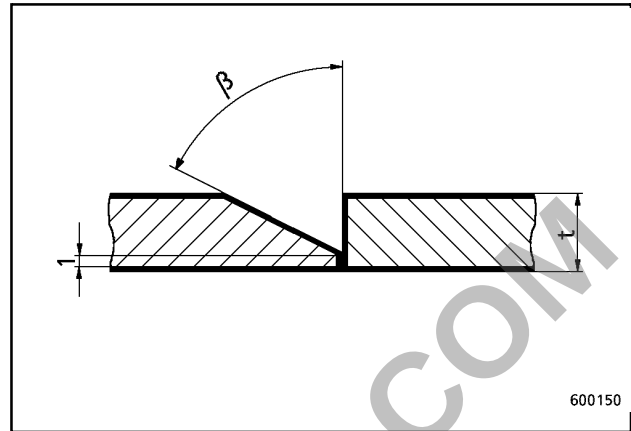

Fig. 41
- Single-bevel butt weld (fig. 41)